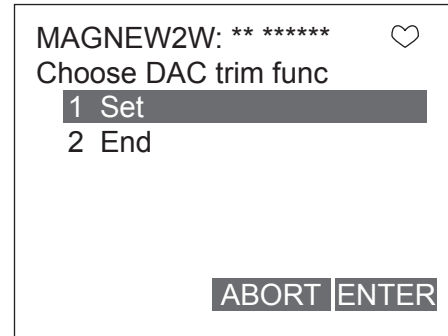
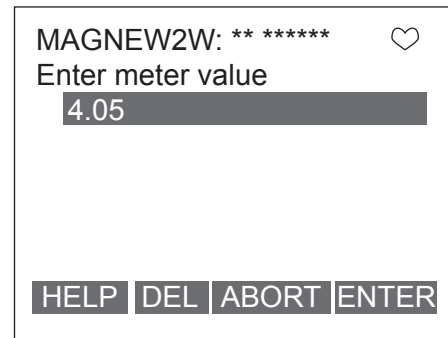

Figure 7-44
Figure 7-45
5. Figure 7-44 will then appear. When executing the adjustment, select “SET”, and then press F4 (ENTER).
6. A numerical value input display (Figure 7-45) will then appear. Measure the output current from the converter and enter the current value by the mA into the device. Once the input has been completed press F4 (ENTER). The converter will start adjusting to 4mA automatically, and return back to the display as shown in Figure 7-44. Verify that the current output value is 4 mA, and terminate the adjustment.